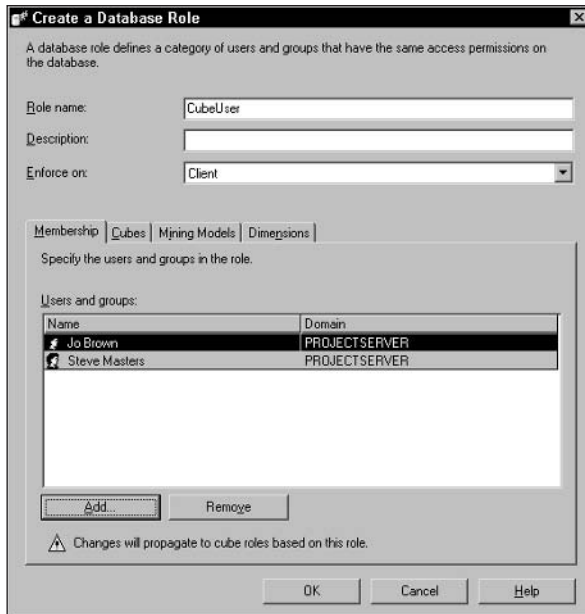

Figure 19-58: Use this box to enable additional users to use the OLAP cube.
4. Click New to open the Create a Database Role dialog box (see Figure 19-58).